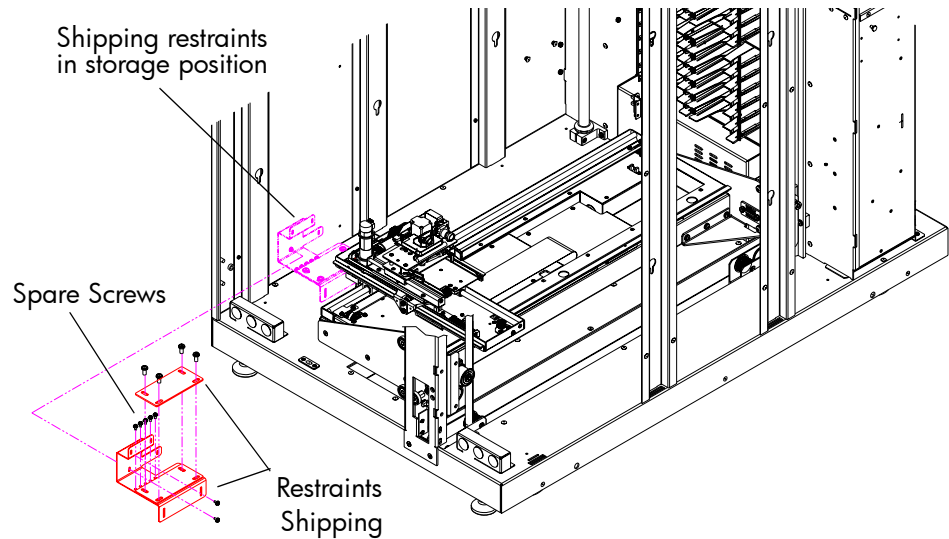

Figure 18: Storing the vertical axis and robot shipping restraints
10. Attach the vertical axis shipping restraint to the robot shipping restraint using the four screws removed from the vertical axis shipping restraint in step 9 (see Figure 18).
11. Store the five spare screws in the robot shipping restraint as shown in Figure 18.
12. Use the remaining two screws to secure the combined shipping restraints in the library, as shown in Figure 18.